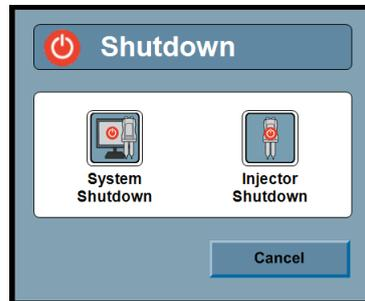

Figure 7 - 1: Shutdown Options
2. Select from the following (Figure 7 - 1: Shutdown Options):